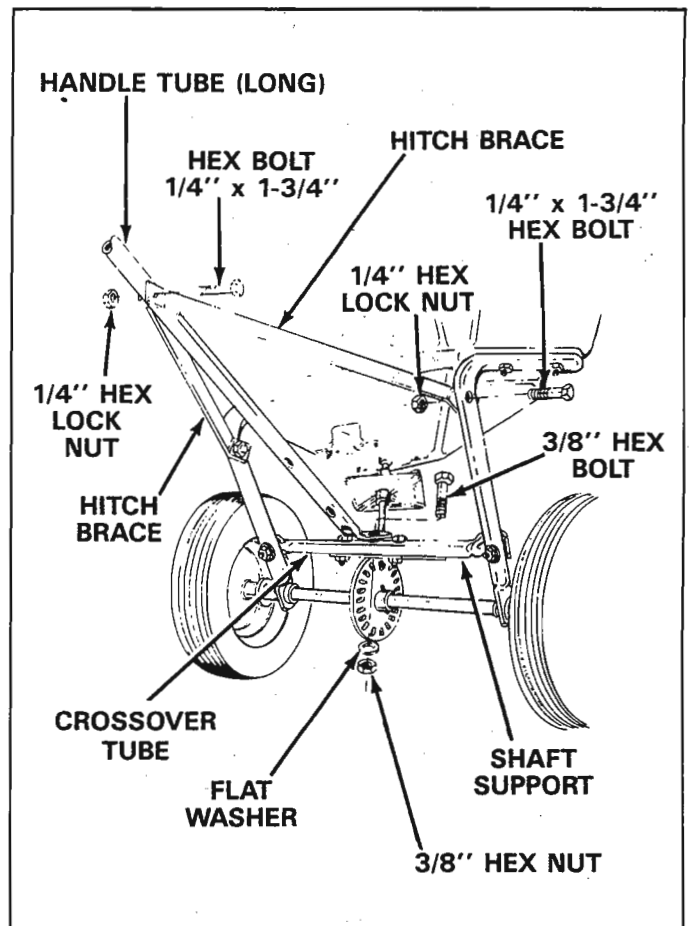

FIGURE 8
- Assemble two hitch braces to the inside of the hopper frame, one each side, using two 1/4" x 1-3/4" and two 1/4" lock nuts. See figure 8. **DO NOT TIGHTEN AT THIS TIME.**
- Align the holes in the ends of the two hitch braces with the nearest hole in the handle tube assembly, secure with 1/4" x 1-3/4" hex bolt and 1/4" lock nut. See figure 8.